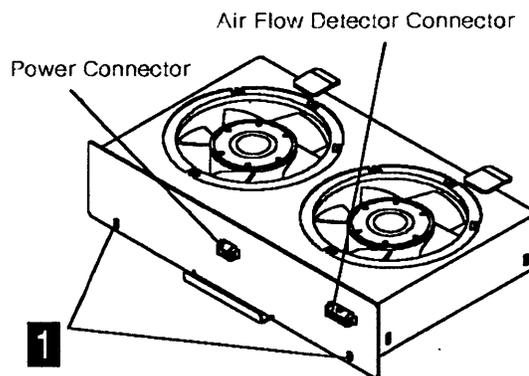

Figure 4-69. Fan 2 Air Flow Detector and Power Cables
6. At Fan 2, disconnect the air flow detector cable and the power cable. Refer to Figure 4-69.